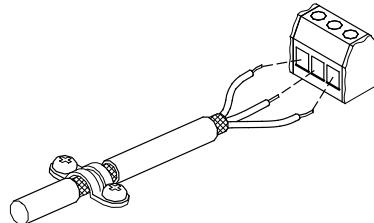

Fig. 12 Stripped cable with screen and wire connection
- The screens of the cables must be connected to frame at both ends with good frame connection. They must be as close as possible to the terminals. See fig. 12.